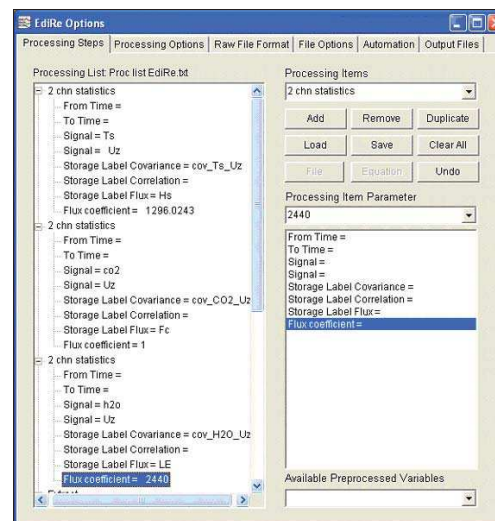

Figure 18: A flux coefficient of 2440 is entered.
25. You can add more “Processing Items” to compute additional covariances and fluxes. The example also computes $\text{cov}(\text{CO}_2, U_z)$, labeled cov_CO2_Uz , and carbon flux F_c , as well as the $\text{cov}(\text{H}_2\text{O}, U_z)$, labeled $\text{cov_H}_2\text{O_Uz}$, and latent heat flux LE. The estimated latent heat of evaporation 2440 J g^{-1} was used in computation of LE (Figure 18).